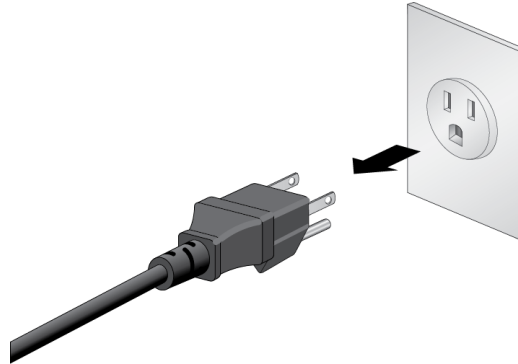

Figure 91. Powering Off the Switch
1. Power off the switch by disconnecting its AC power cords from the AC power sources. Refer to Figure 91.